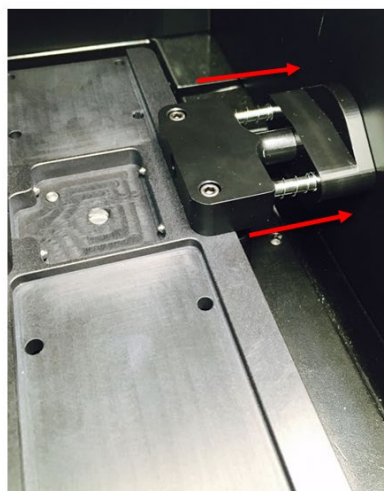

FIGURE 4: Spring-loaded beam tubes
- e. Ensure that the spring-loaded beam tubes fit flush against the walls. See Figure 4.